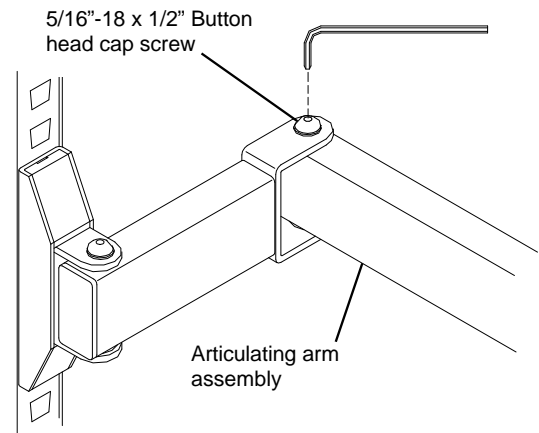

Figure 6
1. The ease with which a joint pivots can be adjusted by tightening or loosening the 5/16"-18 x 1/2" Button head cap screws at each joint. See **Figure 6**.